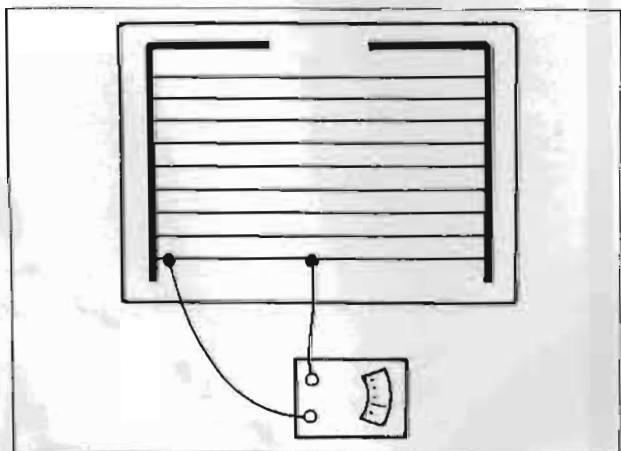

Fig. BE-46 Checking for broken heat wire with ohmmeter
(3) Method 3 -- With an ohmmeter setup shown in Figure BE-46, locate one lead on each end of a heat wire and the other in the middle section of that wire. If the meter registers, on a specific grid line, a value twice as much on any other line, that line is broken.